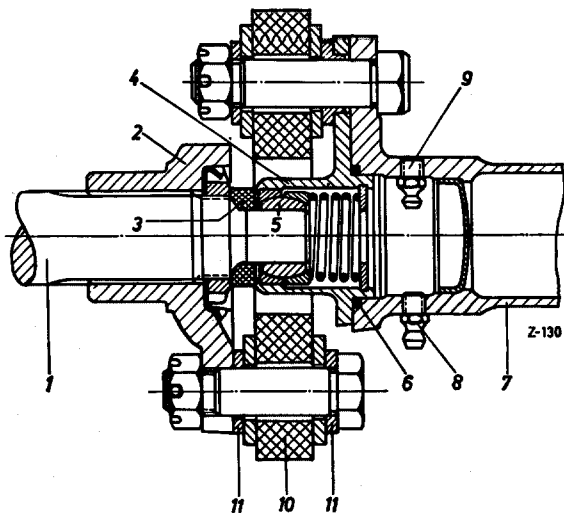

Fig. 01 — 1/11
27. Attach the propeller-shaft intermediate bearing without forcing, noting the position marked during the removal operation (see Fig. 01 — 1/5).
28. Fit to spring plate (11) the two hexagon screws which hold the swivel support (12) for the clutch actuating mechanism (see Fig. 01 — 1/12).